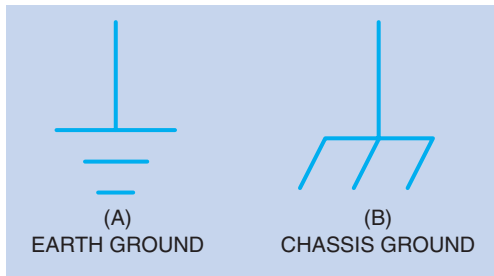

FIGURE 5-23 Ground symbols.
Two symbols are used to represent ground (Fig. 5-23). The symbol shown in Figure 5-23 (A) is an **earth ground** symbol. It symbolizes a **ground point** that is made by physically driving an object
such as a rod or a pipe into the ground. The symbol shown in Figure 5-23 (B) symbolizes a **chassis ground**. This point is used as a common connection for other parts of a circuit, but it is not actually driven into the ground. Although the symbol shown in Figure 5-23 (B) is the accepted symbol for a chassis ground, the symbol shown in Figure 5-23 (A) is often used to represent a chassis ground also.